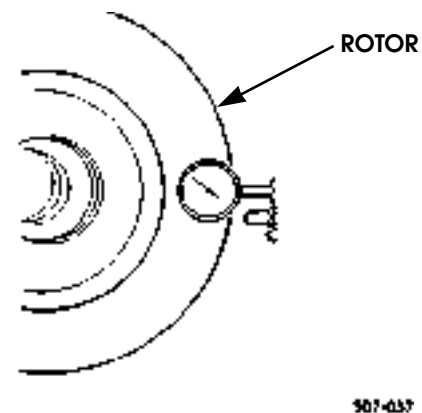

Figure 7-39: Checking Rotor for Lateral Runout
1. Mount dial indicator with stylus contacting rotor surface 1 in. (25 mm) in from outer edge (Figure 7-39).